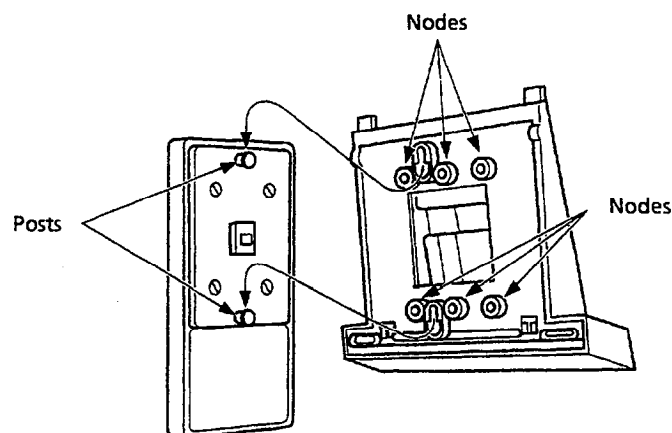

Figure 4-20 Attaching the Base Unit to the Wall
3. Attach the base unit to the posts on the locally provided wall plate. Using locally provided screws, secure the base unit to the wall. Place the screws in the nodes provided on the base unit. (Place the wider end of the base unit down.) Attach the base unit to the wall plate as shown in Figure 4-20 Attaching the Base Unit to the Wall.